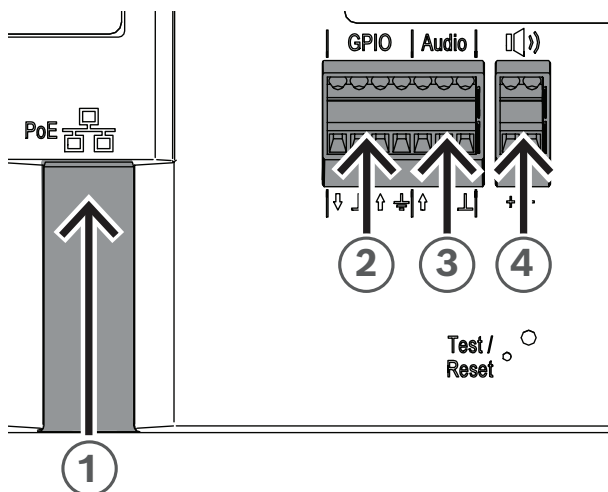

Figure 2.5: Front panel of the IP Amplifier module
Connecting to the network (Figure 2.5, callout 1)
1. Using an Ethernet cable, connect one end of the cable to the PoE/PoE+ port (Figure 2.5, callout 1).
Connecting the GPIO (Figure 2.5, callout 2)
Connecting the analog Audio (Figure 2.5, callout 3)
- Connect the wires to the Audio terminal on the device (Figure 2.5, callout 3).
Connecting the passive loudspeaker (Figure 2.5, callout 4)